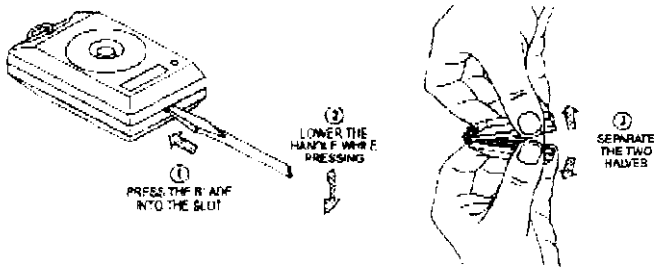

Figure 2. Opening the Case
- A. To open the case, refer to Figure 2. Insert an 1/8 inch screwdriver blade in the slot at the bottom of the case. Press the blade inward, applying moderate pressure, and while pressing, swing the handle slightly down until the covers partially separate.